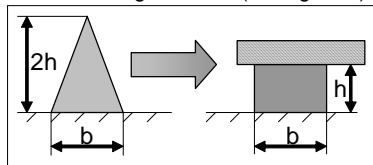

Figure 1: Recommended bead configuration
**Pails/drums:** Sikaflex®-254 with Booster is dispensed straight from pails and drums by means of a pump system equipped with a Sika® Booster dosing unit. The mixing ratio is  $2\% \pm 10\%$  (1.8 – 2.2 %). To ensure a uniform thickness of adhesive when compressed, we recommend applying the adhesive in the form of a triangular bead (see figure 1).